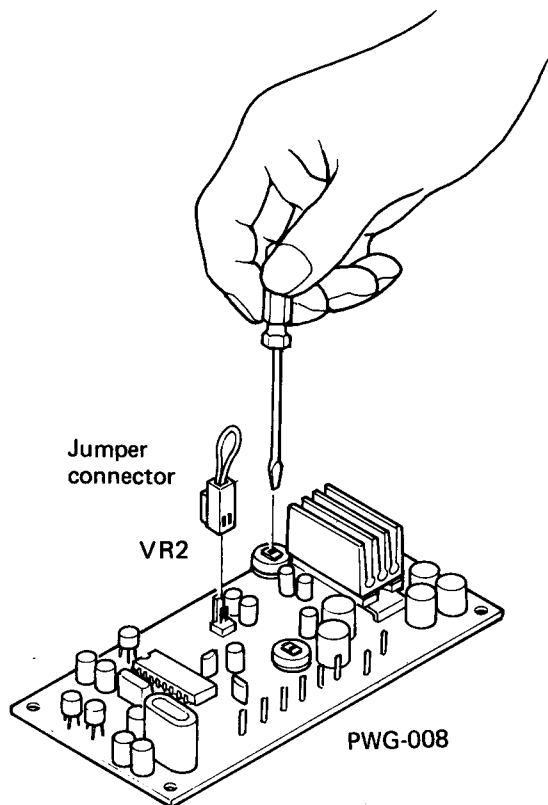

Fig. 15
- Adjust white potentiometer VR2 until stroboscope comes to a standstill. See Fig. 15.